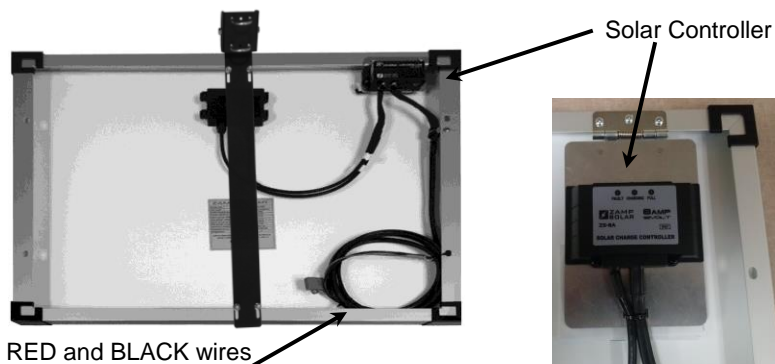

Figure 7
16. Cut the black zip-ties securing the RED and BLACK wires on the underside of the solar panel. (Figure 7)